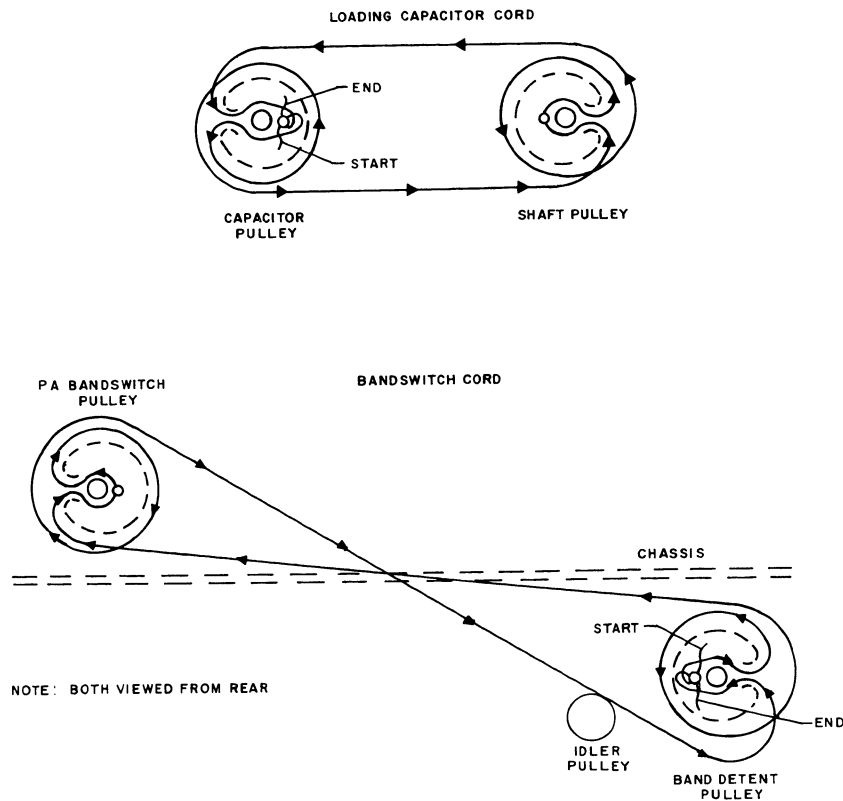

Figure 4-3. Dial Cord Stringing Diagram
4.7 Dial Cord Replacement. (Refer to figure 4-3.)
- d. String the cord according to the appropriate part of figure 4-3. Make sure the cord turns do not overlap on the pulleys. Pull the cord tight, and tie to the tab. Make sure a short piece of spaghetti is slipped over the plastic covered cord so that it acts as extra insulation under the tab. This prevents rf currents from melting the plastic and shorting the wire core to ground. Mash the tab down to clamp the cord securely. Tighten the idler to bring the cord to tension.
d. String the cord according to the appropriate part of figure 4-3. Make sure the cord turns do not overlap on the pulleys. Pull the cord tight, and tie to the tab. Make sure a short piece of spaghetti is slipped over the plastic covered cord so that it acts as extra